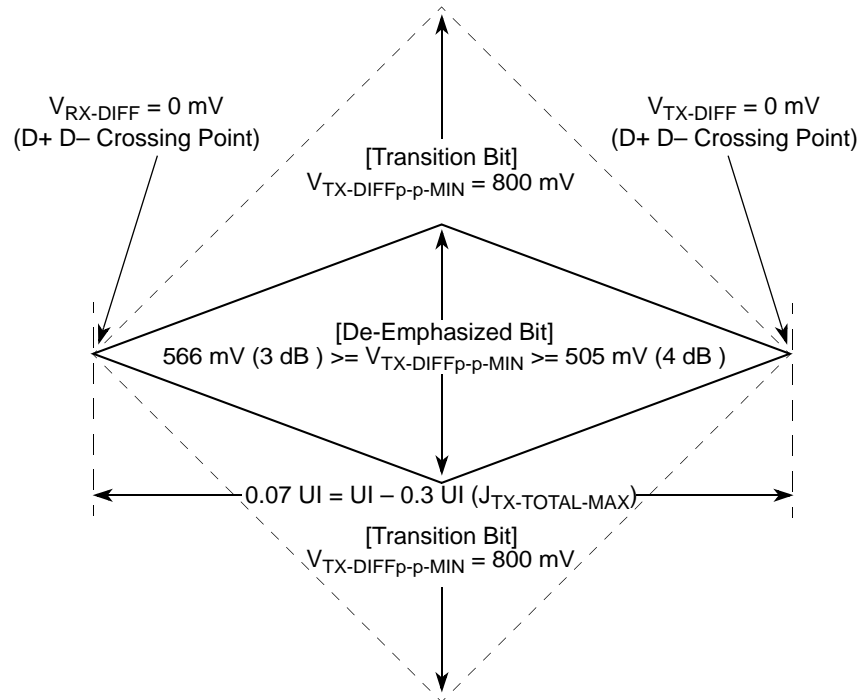
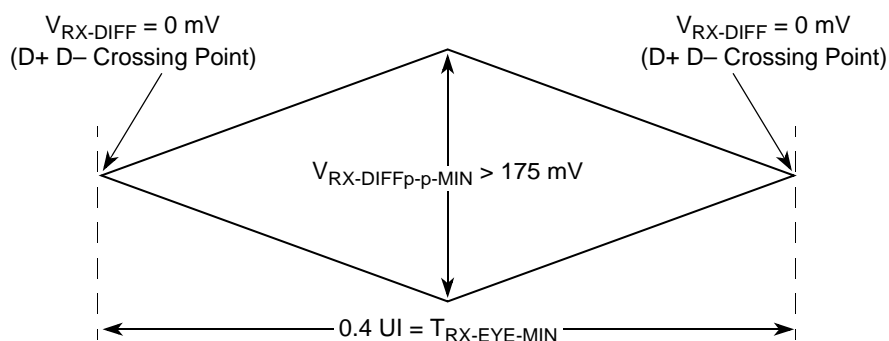
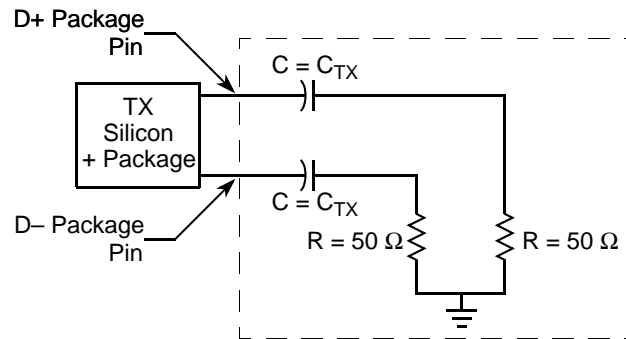

Figure 55. Minimum Transmitter Timing and Voltage Output Compliance Specifications
Figure 56. Minimum Receiver Eye Timing and Voltage Compliance Specification
Figure 57. Compliance Test/Measurement Load
2. Specified at the measurement point into a timing and voltage compliance test load as shown in Figure 57 and measured over any 250 consecutive TX UIs. (Also refer to the transmitter compliance eye diagram shown in Figure 55.)
4. The Transmitter input impedance shall result in a differential return loss greater than or equal to 12 dB and a common mode return loss greater than or equal to 6 dB over a frequency range of 50 MHz to 1.25 GHz. This input impedance requirement applies to all valid input levels. The reference impedance for return loss measurements is 50 ohms to ground for both the D+ and D- line (that is, as measured by a Vector Network Analyzer with 50 ohm probes—see Figure 57). Note that the series capacitors C_{TX} is optional for the return loss measurement.
5. Measured between 20-80% at transmitter package pins into a test load as shown in Figure 57 for both $V_{\text{TX-D+}}$ and $V_{\text{TX-D-}}$.
The TX eye diagram in Figure 55 is specified using the passive compliance/test measurement load (see Figure 57) in place of any real PCI Express interconnect + RX component.
- Specified at the measurement point and measured over any 250 consecutive UIs. The test load in Figure 57 should be used as the RX device when taking measurements (also refer to the Receiver compliance eye diagram shown in Figure 56). If the clocks to the RX and TX are not derived from the same reference clock, the TX UI recovered from 3500 consecutive UI must be used as a reference for the eye diagram.
- The Receiver input impedance shall result in a differential return loss greater than or equal to 15 dB with the D+ line biased to 300 mV and the D- line biased to -300 mV and a common mode return loss greater than or equal to 6 dB (no bias required) over a frequency range of 50 MHz to 1.25 GHz. This input impedance requirement applies to all valid input levels. The reference impedance for return loss measurements for is 50 ohms to ground for both the D+ and D- line (that is, as measured by a Vector Network Analyzer with 50 ohm probes - see Figure 57). Note: that the series capacitors CTX is optional for the return loss measurement.
The RX eye diagram in Figure 56 is specified using the passive compliance/test measurement load (see Figure 57) in place of any real PCI Express RX component.
Note: In general, the minimum Receiver eye diagram measured with the compliance/test measurement load (see Figure 57) is larger than the minimum Receiver eye diagram measured over a range of systems at the input Receiver of any real PCI Express component. The degraded eye diagram at the input Receiver is due to traces internal to the package as well as silicon parasitic characteristics which cause the real PCI Express component to vary in impedance from the compliance/test measurement load. The input Receiver eye diagram is implementation specific and is not specified. RX component designer should provide additional margin to adequately compensate for the degraded minimum Receiver eye diagram (shown in Figure 56) expected at the input Receiver based on some adequate combination of system simulations and the Return Loss measured looking into the RX package and silicon. The RX eye diagram must be aligned in time using the jitter median to locate the center of the eye diagram.
The reference impedance for return loss measurements is 50. to ground for both the D+ and D- line (that is, as measured by a Vector Network Analyzer with 50. probes—see Figure 57). Note that the series capacitors, CTX, are optional for the return loss measurement.
The AC timing and voltage parameters must be verified at the measurement point, as specified within 0.2 inches of the package pins, into a test/measurement load shown in Figure 57.